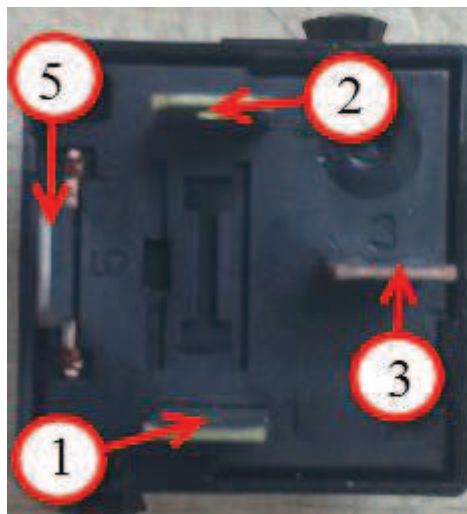

Figure 9. Relay terminal locations. Terminal 1: 85 Terminal 2: 86 Terminal 3: 30 Terminal 5: 87
10. Check for battery voltage on J271 relay harness terminals 1 (85 power) and 3 (30 power) (Figure 8 and Figure 9).